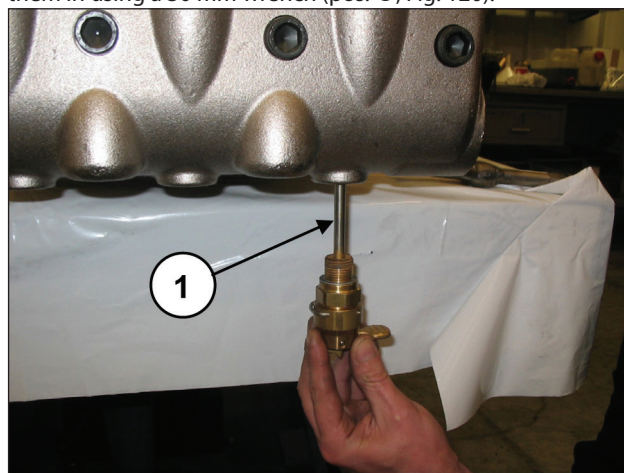
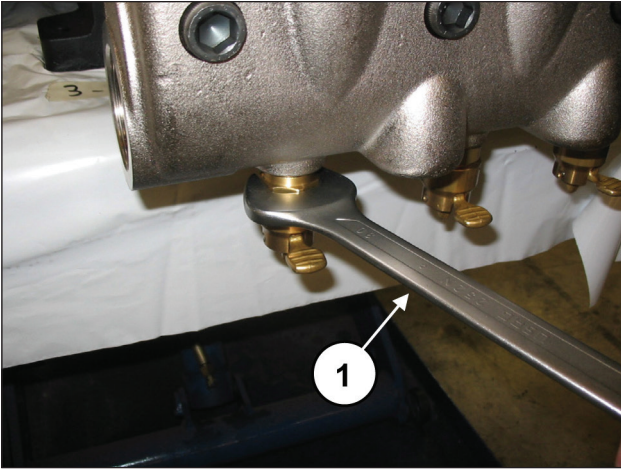

Fig. 119
Fig. 120
Apply the valve opening devices (pos. ①, Fig. 119) and screw them in using a 30 mm wrench (pos. ①, Fig. 120).